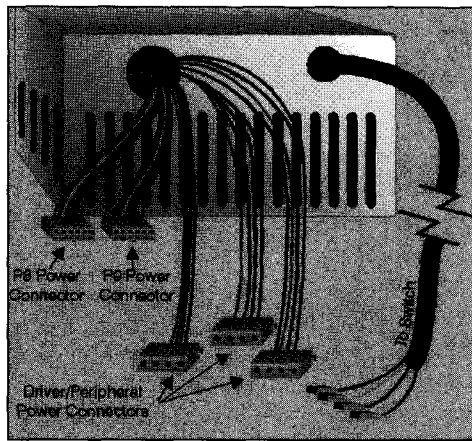

FIGURE 16.1 A common PC power supply.
operating current. Most PCs also rely on it for cooling, since it contains the system's primary fan and exhaust port. If your power supply isn't doing its job, you can run into a variety of problems that aren't easy to track down. These include erratic read/write errors on the hard drive, failing to boot, overheating, and funny noises. Your PC's power supply is one of its weakest components, with one of the most demanding jobs. Cheap power supplies often cost about \$30, less than half of their more expensive counterparts. The cost of a power supply is somewhat indicative of its quality, although you should use features and Underwriter Laboratories (UL) certification as more reliable gauges than price. Also, don't forget that power supplies come with different wattages. Obviously a 400-watt power supply is going to cost more than a 200-watt power supply. See Figure 16.1.